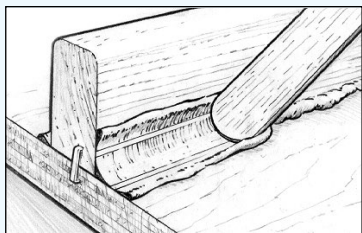

Figure 13 Shape and smooth the fillet.
2. Shape and smooth the squeezed-out thickened epoxy into a fillet by drawing a rounded filleting tool (a mixing stick is ideal) along the joint, dragging excess material ahead of the tool and leaving a smooth cove-shaped fillet bordered on each side by a clean margin. Some excess filleting material will remain outside the margin (*Figure 13*) which can be used to refill any voids. Smooth the fillet until you are satisfied with the appearance. A mixing stick will leave a fillet with about a 10mm radius. For larger fillets, an 808 Plastic Squeegee is recommended, cut to shape or bent to the desired radius.